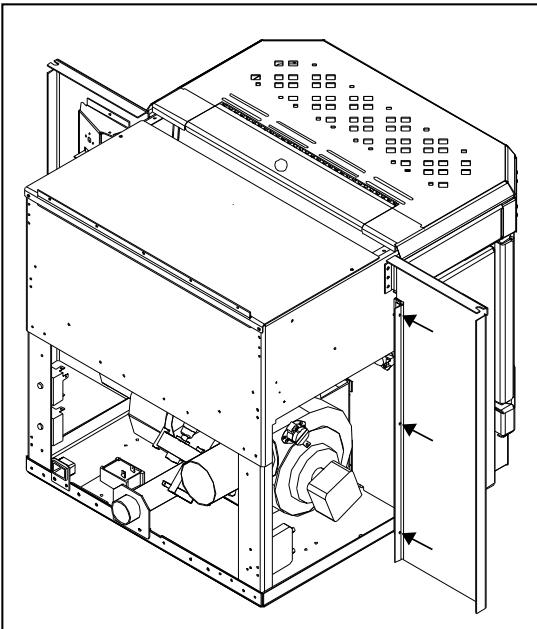

Figure 37: Panel placed on unit.
- Using three (3) T-20 screws on each side attach the hinges on the side surround panels to the unit's side panels (refer to Figure 37).